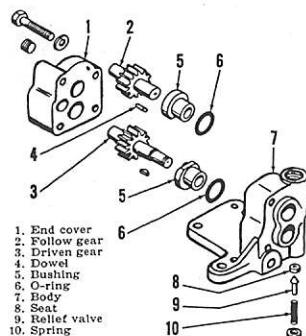

Fig. 300—Exploded view of Wooster 4 gpm pump used on early models with Multipower transmission.
253. A number of different auxiliary pumps have been used. Refer to Figs. 300 through 304. Pumps shown in Fig. 300, 301 and 302 are used on tractors equipped only with "Multipower" transmission, Independent Power Take-Off, or a combination of the two. Pumps shown in Fig. 303 and 304 are used for auxiliary hydraulic applications as well as for "Multipower" or IPTO pressure.
WOOSTER 4 gpm pump: Refer to Fig. 300. End bearings (5) are pressure loaded and balanced to control